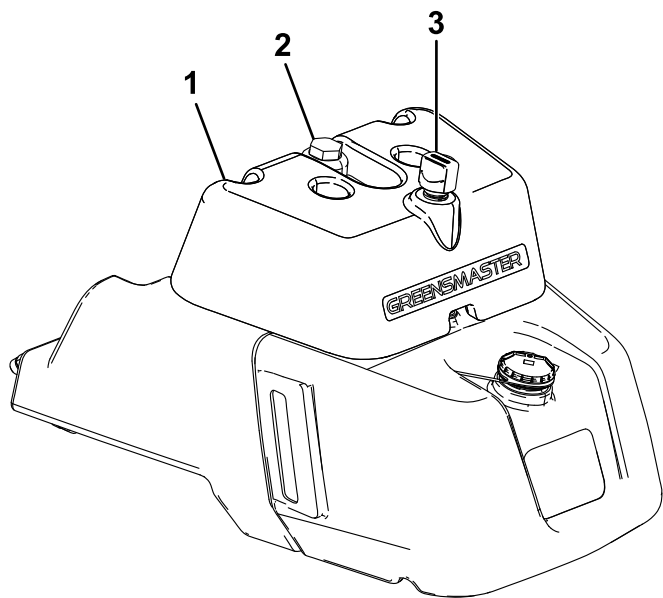

Figure 44
- If your tank has a sight window, check the oil level there (Figure 44) and proceed to step 5.